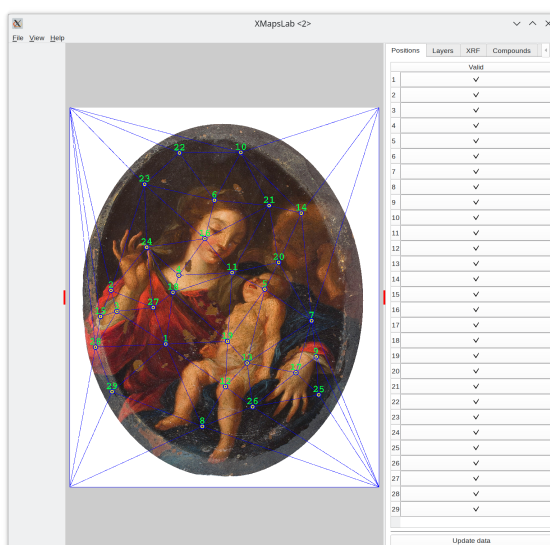

Figure 5.25: The triangulation with the added corners is shown.
- * **With corners**: This option displays the Delaunay triangulation including the corners, which are assigned a value of 0 (**Figure 5.25**).